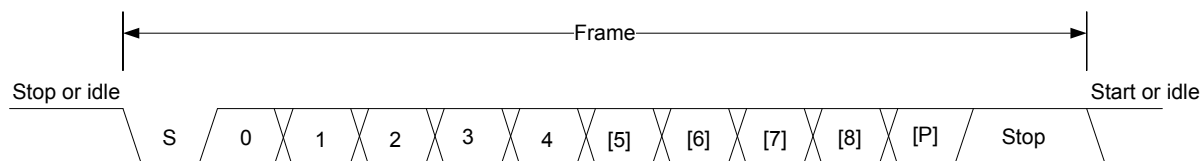

Figure 21.2. Frame Format
The frame format used in asynchronous mode consists of a set of data bits in addition to bits for synchronization and optionally a parity bit for error checking. A frame starts with one start-bit (S), where the line is driven low for one bit-period. This signals the start of a frame, and is used for synchronization. Following the start bit are 7 to 9 data bits and an optional parity bit. Finally, a number of stop-bits, where the line is driven high that indicates the end of the frame. An example frame is shown in Figure 21.2 Frame Format on page 617.